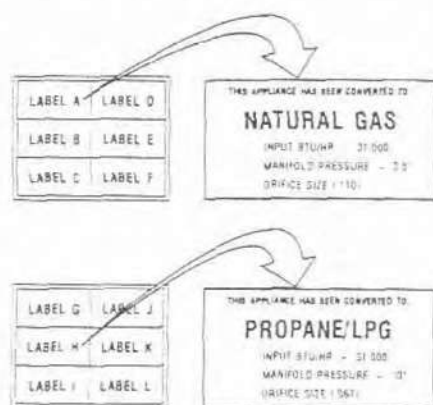

Figure 55
Step 9. Attach conversion kit label to the rating plate on the appliance; Label A for units converted to natural gas or Label H for units converted to propane (Figure 55).